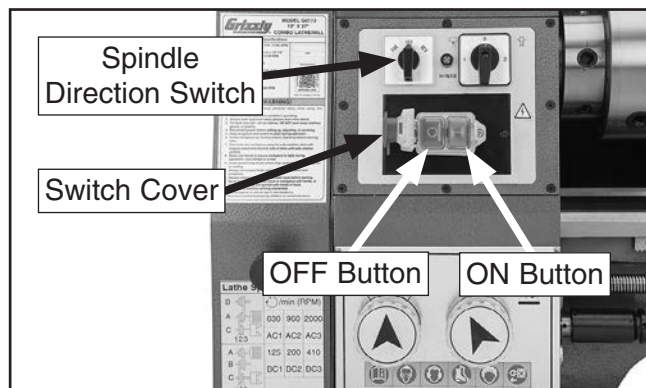

Figure 19. Emergency Stop button lathe.
- Press tab on side of Emergency Stop button to open switch cover (see **Figure 19**), and reset switch by pressing green ON button (be sure to leave switch cover open; otherwise, closing it will prevent operation).
- Turn spindle direction switch shown in **Figure 19** to "FOR" (forward) position. The spindle *should* rotate counterclockwise—down and toward front of lathe.